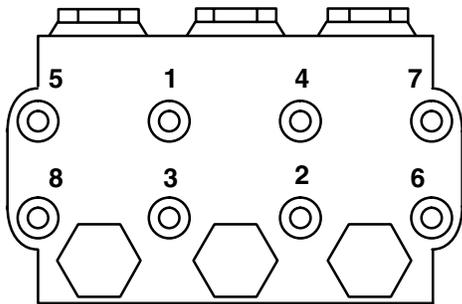

Fig. 4
9. Install the capscrews and washers finger-tight. Torque the screws to 29 N-m (21.7 ft-lb) following the tightening pattern shown in Fig. 4. Uneven tightening could cause the manifold to bind or jam.